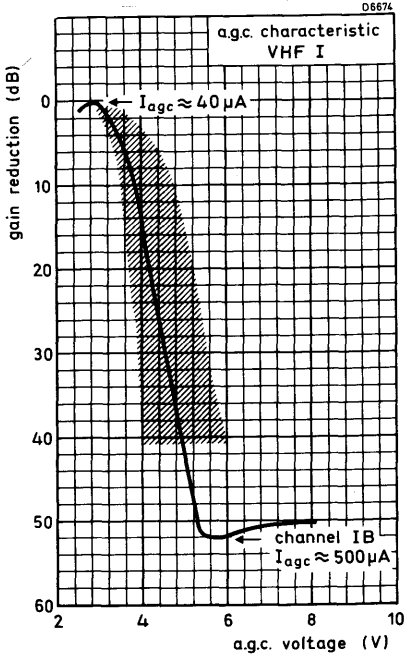

Fig. 5.
A. G. C. voltage (Figs. 5 and 6)